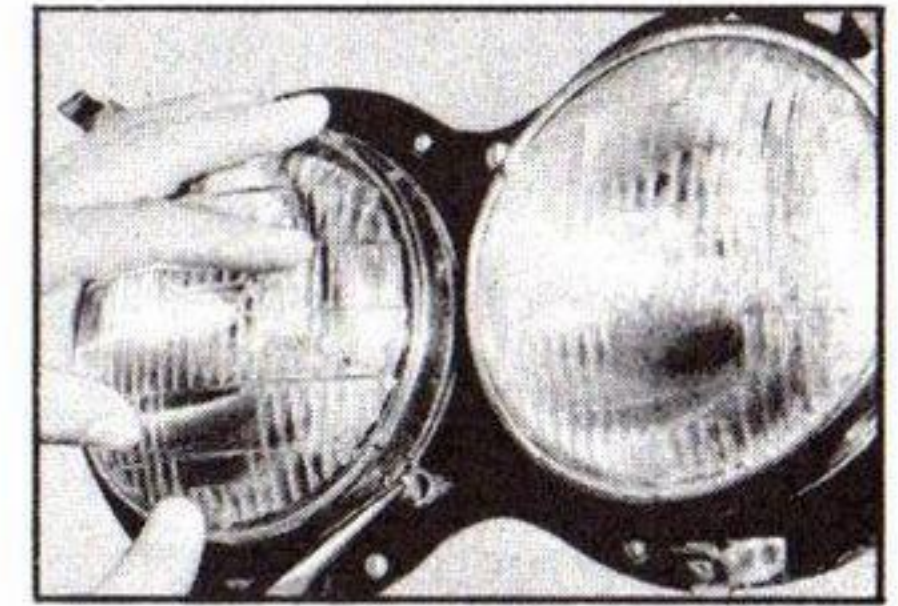
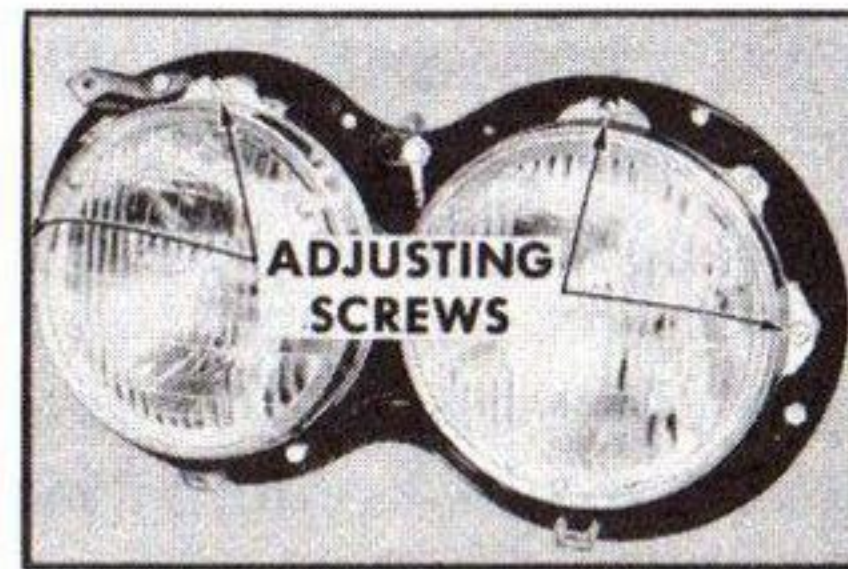

Fig. 47—Retaining Ring and Spring
Fig. 48—Adjusting Screws
2. Remove the spring holding the retaining ring (fig. 47). Do not touch the adjusting screws at the top and sides of the mounting ring, fig. 48).
Two screws are provided for vertical and horizontal adjustment of each beam as shown in fig. 48. Turning the vertical adjusting screw "in" or "out" will raise or lower the light beam, turning the horizontal adjusting screw "in" or "out" will move the light beam laterally to the right or left. Proper aiming of these powerful lights is most important to assure sufficient illumination of the highway without blinding other motorists. To obtain maximum results in road illumination and in the safety that has been built into the headlighting equipment your Chevrolet dealer, who has special equipment for the purpose, should be contacted whenever light aiming is necessary.